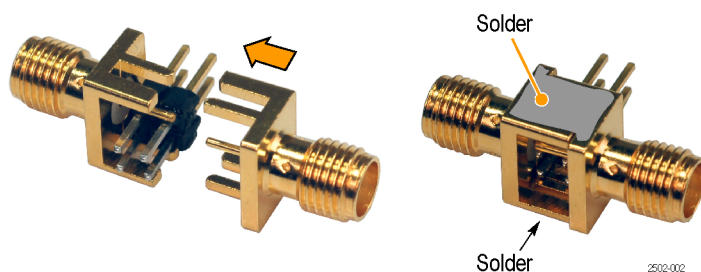

Figure 6: Solder the SMA connectors together
5. Align the second SMA connector to the first as shown and solder the center conductors of the connectors together. (See Figure 6.)